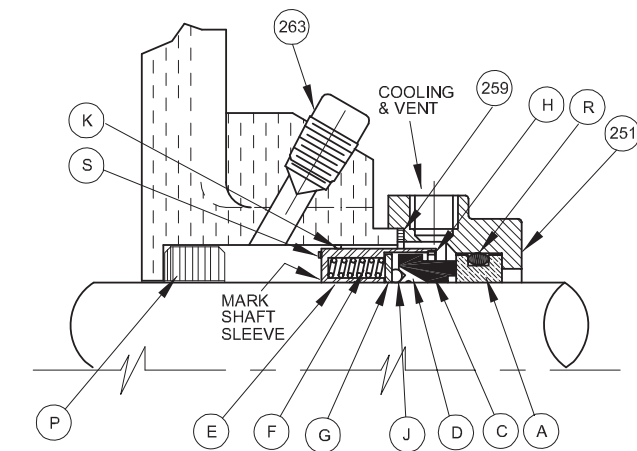

Figure 8 - Single Seal Flexible Mount
3. Reposition the adapter (71) on the motor and replace the cap screws (219). Slide the slinger (40) onto the shaft.
4. Insert the shaft sleeve into the bore of the packing box with the keyway towards the impeller. Insert packing (13) and lantern ring (29) as described under "Packing Box Care" .
5. Place the entire packing box assembly and shaft sleeve over the shaft and position the packing box cover on the adapter. Line up the keyway in the sleeve with the keyslot in the shaft and replace the impeller key (32).
6. Replace the jack screws (28) and draw down snug, see Figure 8.
7. Place the shaft gasket (38) over the end of the shaft. Place the impeller (2) over the end of the shaft with the keyway over the key. The impeller should be tapped into position with a babbitt or rawhide hammer. Replace the impeller gasket (30), impeller washer (270), o-ring (272), and impeller screw (26), and tighten. Proceed to Step 8.
- 4b. Lightly oil the inside of the spring retainer or holder (E) and the outside of the sleeve. Slide the rotating portion of the seal over the sleeve.
- 5a. Replace the seal gland gaskets (A and 259). Oil the outer surface of the seal seat (A) and press into the seal gland (251).
- 5b. Carefully slide the seal gland and the gland gasket (259) over the motor shaft.
- 5c. Place the shaft sleeve on the shaft and line up the keyway in the sleeve with the keyslot in the shaft. Replace the impeller key (32).
- 6b. Place the packing box cover over the shaft and seal the assembly. Replace jack screws (28) and draw down snug (see Figure 8).
- 7a. Place the shaft gasket (38) over the end of the shaft. Place the impeller (2) over the end of the shaft also, with the keyway over the key. Tap impeller into position with a babbitt or rawhide hammer. Replace the impeller gasket (30), impeller washer (270), o-ring (272), and impeller screw (26) and tighten.
6-2. Slide the packing box cover over the seal assembly and sleeve. Replace the jack screws (28) and draw down snug. See Figure 8.
8. Replace the casing gasket (73)
9. Relocate the unit in the casing and replace cap screws (212) holding the adapter and cover the casing.
10. Loosen the jack screws (287) to permit the unit to slip into the casing. See Figure 8.